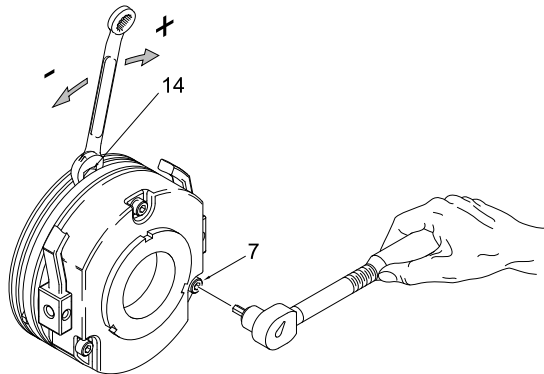

Figure 48 – Adjusting the Traverse Brake Air Gap
Where adjustment is required, loosen the assembly screws (7) by half a turn. Adjust the air gap by turning the adjustment tubes (14) until the required air gap is reached (see Figure 48).
- If the air gap is too large, screw the three adjustment tubes (14) into the stator. If the air gap is too small, screw the adjustment tubes out of the stator.